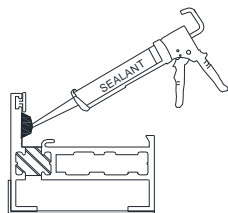

Figure 14:
1. Before glazing, apply a continuous bead of sealant to the inner frame (Figure 14).